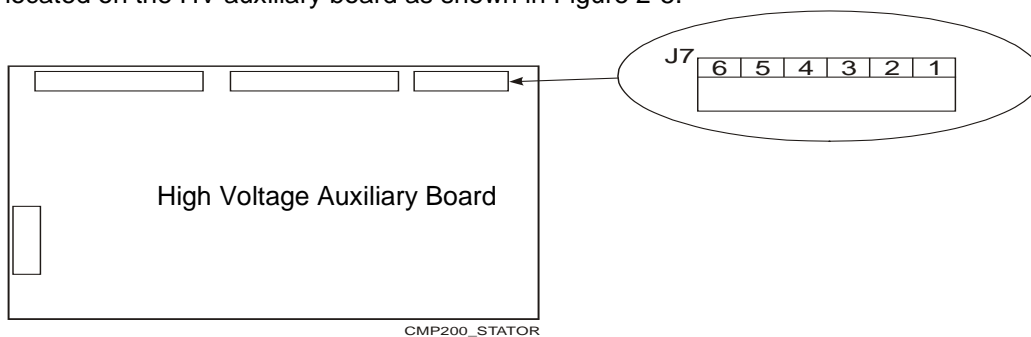

Figure 2-5: the connector of the X-ray tube stator cable for the low-speed starter
The J7 connector is designed for connecting the X-ray tube stator cable for the low-speed starter. It is located on the HV auxiliary board as shown in Figure 2-5.
1. Route the X-ray tube stator cable towards the J7 connector on the HV auxiliary board as shown in Figure 2-5.